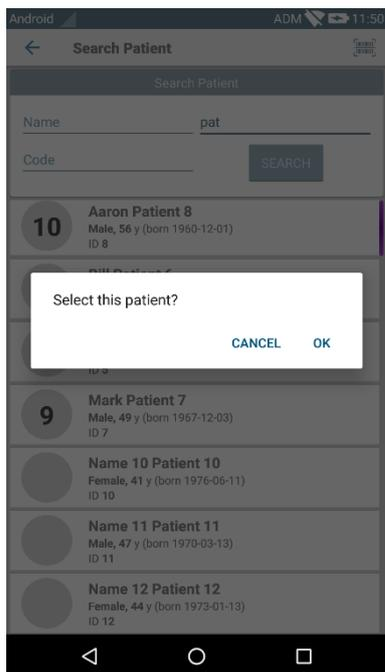

Fig 155
- Touch the box corresponding to a patient to select the patient. User confirmation is required (Fig 155).